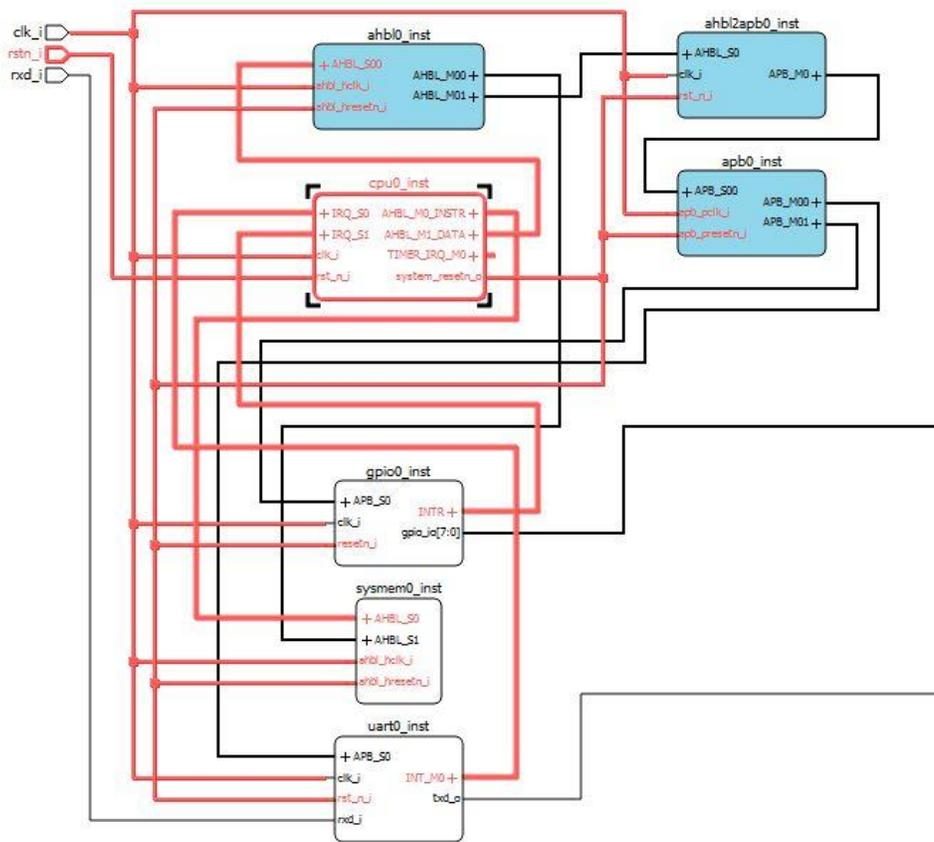

Figure 2.29. Show Connectivity of the Module
- To show the connectivity of a module: right-click the module and choose **Show connectivity**. All nets connected to the module, all pins and ports connected to the nets are highlighted (Figure 2.29).